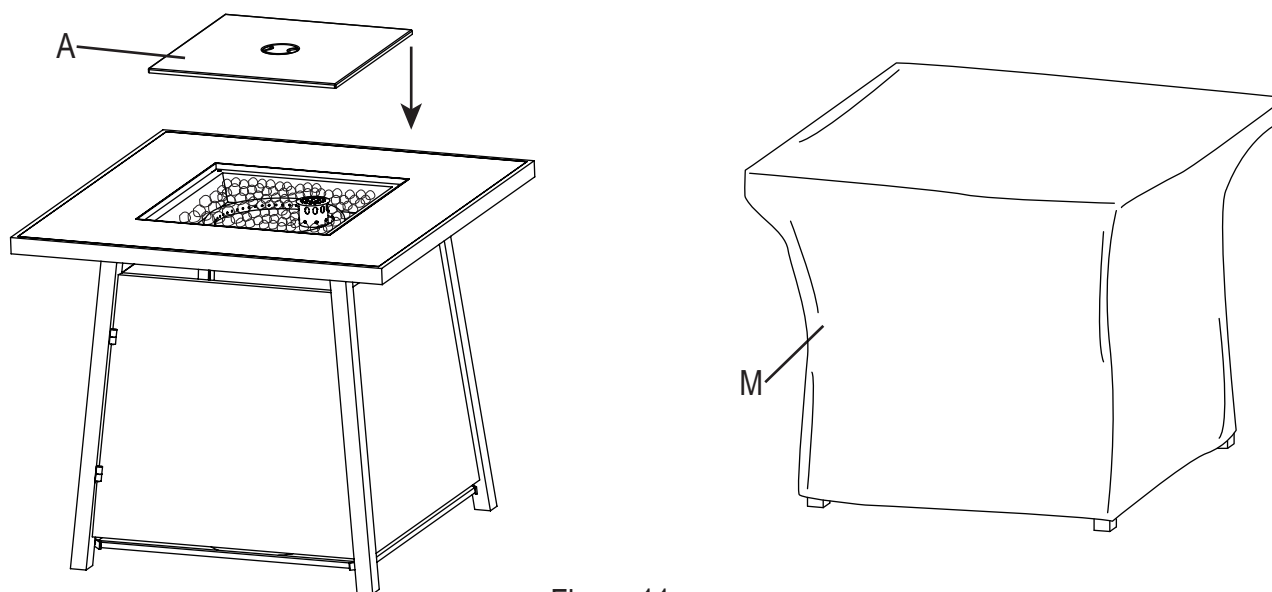

Figure 11
11. Once the firepit has cooled completely after use, carefully place the lid (A) onto the fire bowl and use the weather cover (M) to protect your fire pit from the elements, (see Figure 11).